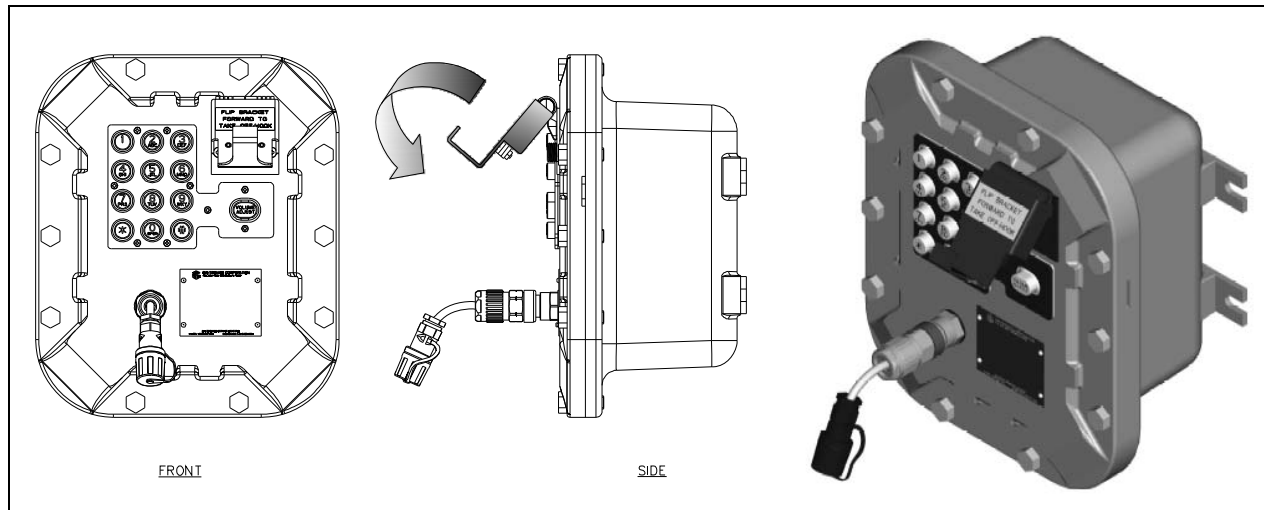

Figure 12.
5. Flip the headset activation bracket to its vertical preset position to hang up. If applicable, place the headset on the bracket after the completion of the call. Otherwise, disconnect the flexible receptacle and plug by unscrewing the two ends, and pulling them apart. When disconnected, reattach the sealing cap to the end of the receptacle. See Figure 12.